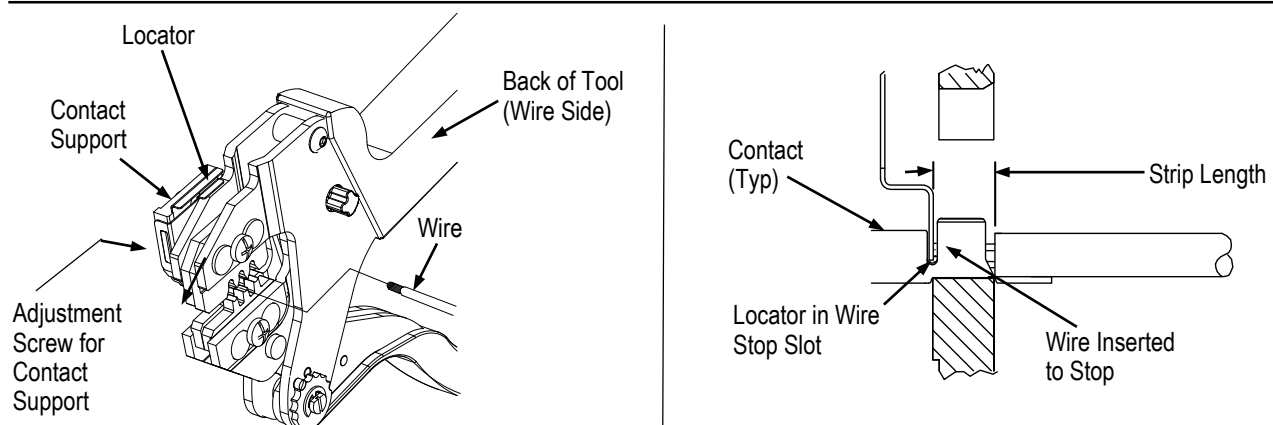

Figure 3
### 4. CONTACT SUPPORT ADJUSTMENT (Figure 3)
Refer to the table in Figure 1 and select wire of the specified size and insulation diameter. Strip the wire to the length indicated in Figure 1, taking care not to nick or cut wire strands. Select an applicable contact and identify the appropriate crimp section according to the wire size markings on the tool. Refer to Figure 3 and proceed as follows:
3. Position the contact so that the mating end of the contact is on the locator side of the tool, and so that the open “U” of the wire and insulation barrels face the top of the tool. Place the contact up into the nest so that the movable locator drops into the slot in the contact. Refer to Figure 3. Butt the front end of the wire barrel against the movable locator.
5. Insert stripped wire into contact insulation and wire barrels until it is butted against the wire stop, as shown in Figure 3.
The crimped contact may stick in the crimping area, but the contact can be easily removed by pushing downward on the top of the locator (see Figure 3).